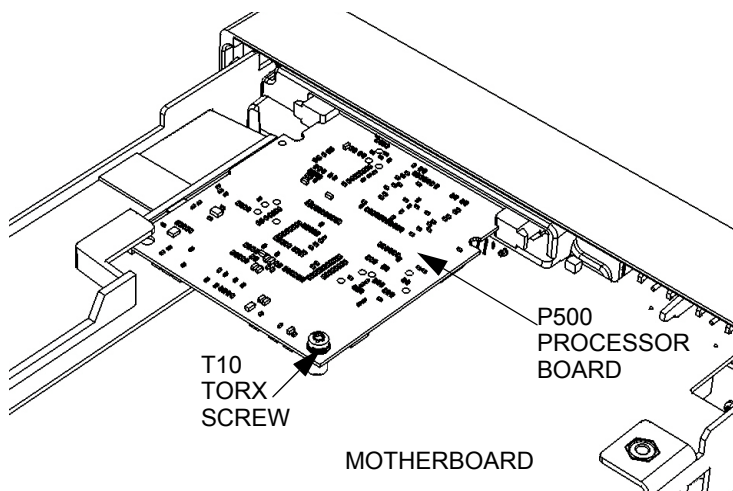

Figure 4-17. Processor Printed Circuit Board.
- 2 Turn the chassis upside down. On the bottom of the motherboard, remove the T10 TORX screw that secures the smaller processor board to the motherboard (see Figure 4-17).